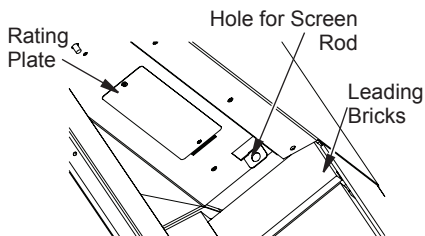

Figure 23 - Installing Fireplace Screen
- on the left and right side of smoke shelf (Figure 23).